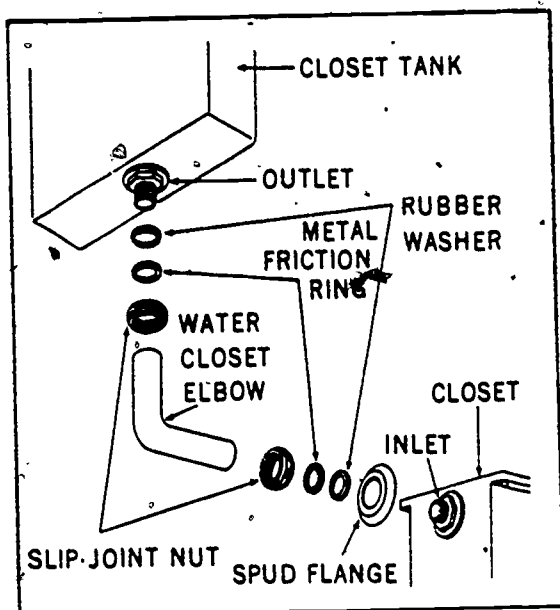

Figure 2-36. Closet tank elbow connection.
b. Hanging the wall type closet water tank. A wall type closet water tank is usually installed after the closet bowl is set in place and after the wall is finished. Check the manufacturer's specifications for the height at which the wall-hung tank should be installed, referring to the particular closet with which the closet tank is a unit. Mark the height of the tank on the wall. Now, slip the water closet elbow, shown in figure 2-36, into the inlet opening on the back of the water closet bowl and tighten the slip joint nut tightly to provide a firm connection to the closet bowl. Raise the closet tank to its approximate position and insert the free end of the water closet elbow into the opening in the closet tank. Line the tank up with the bowl and fasten it to the mounting board on the wall with closet screws. Make sure the tank is level, and tighten the slip joint nuts on the water closet elbow until leakproof joints are formed in the connection between the closet tank and the water closet.